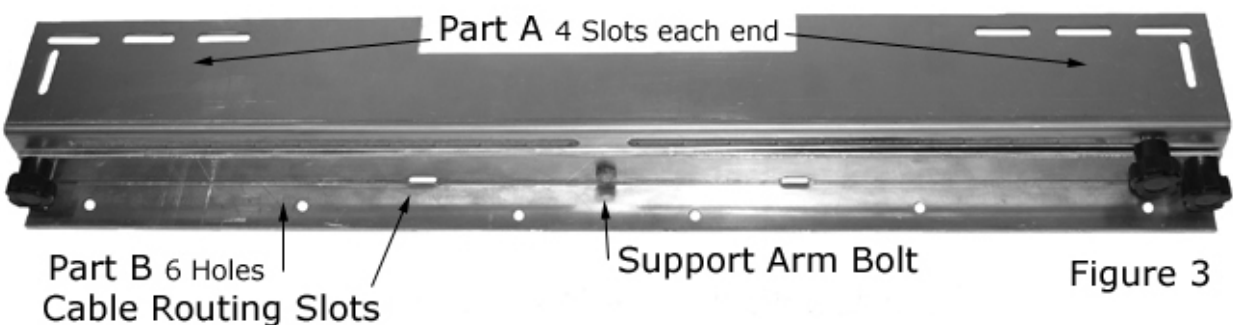

Figure 3
**Step 12:** Raise the Support arm even with the long slot and install the Support Arm Knob. The RVSC Dual Tilt Mount should now look like figure 3.